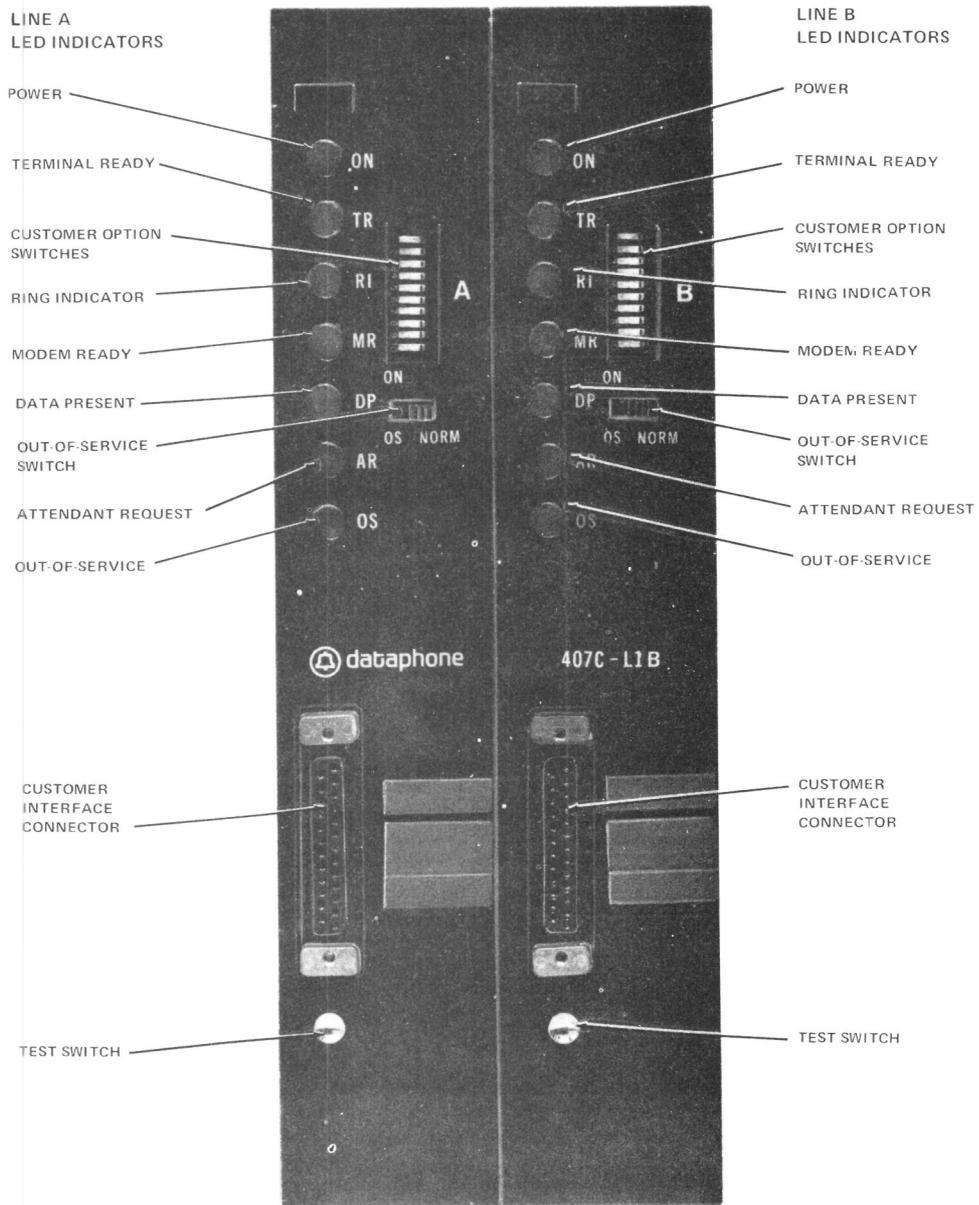

Fig. 2—Data Set 407C-L1—Front View
1.06 DS 407C-type contains a low-speed, parallel receiver that detects 2-out-of-8 multifrequency signals generated by a TOUCH-TONE-type telephone. The data set receives data from either the 2-wire switched telecommunications network or an unconditioned private line facility. In parallel mode only, the data set provides a two-way voice channel. In the serial mode, only a transmit channel is provided. The data set has the capability of generating 2025- and 2225-Hz tones under certain conditions. Status light-emitting diodes (LEDs), as shown in Fig. 2, are provided on the front panel of DS 407C to indicate the state of various functions and customer interface signals. DS 407C provides a serial data interface in accordance with EIA Standard RS-232-C, or a parallel data interface using either a 2-out-of-8 code or a binary coded matrix (BCM) code. The signals used for these outputs conform to EIA voltage specifications of RS-232-C. In addition, for the 2-out-of-8 output, a contact *equivalent* output is available.
3.06 Seven status LEDs are provided on the front of each line of the data set as shown in Fig. 2. The LED names and functions are defined as follows:
- The terminal ready (TR) LED indicates that the data set is ready to receive a call or is in the process of handling a call.
- The ring indicator (RI) LED indicates that ringing is being applied to the data set.
- The modem ready (MR) LED indicates the status of data set ready signal to the customer interface.
- The data present (DP) LED indicates that the data set is receiving valid data.
- The attendant request (AR) LED indicates the occurrence of a computer-generated or terminal-initiated referral request.
- The out-of-service (OS) LED indicates that the data set has been placed out of service.